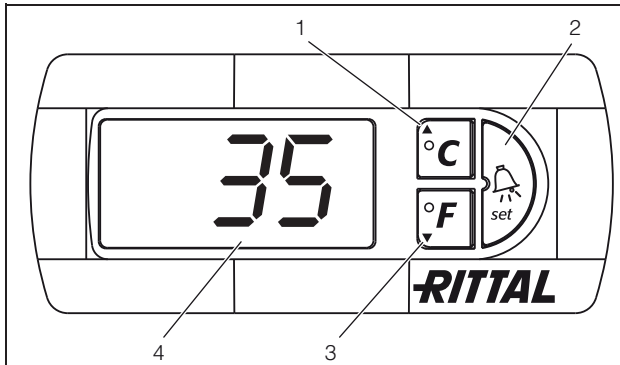

Fig. 21: Display and system analysis of the e-Comfort controller
The e-Comfort controller has a 7-segment display (fig. 21, no. 4). After switching on the power supply, the current software version initially appears on this display for approx. 2 seconds. In regular operation, the display shows both the temperature (in degrees Celsius or Fahrenheit – users may switch between the two) and any error messages.
The current enclosure internal temperature is usually displayed permanently. In the event of an error message, this alternates with the temperature display. The unit is programmed using buttons 1 – 3 (fig. 21). The relevant parameters also appear in the display.
- Simultaneously press buttons 1 and 2 (fig. 21) for at least 5 seconds.
Using buttons 1, 2 and 3 (fig. 21) you can change the parameters within the preset ranges (min. value, max. value).
All Rittal TopTherm heat exchangers with e-Comfort controller from firmware 3.2 have the energy-saving eco-mode, which is activated in the delivered state. The eco-mode is used to save energy in the heat exchanger if there is no thermal load, or there is a low thermal load in the enclosure (e.g. standby operation, no production or weekend). During this process the heat exchanger fan in the internal circuit is switched off as appropriate if the actual enclosure internal temperature drops to 10 K below the setpoint temperature set. Also to reliably measure the internal temperature during this process, the fan starts cyclically for 30 sec. every 10 minutes (see fig. 21). If the internal temperature reaches the range 5 K below the setpoint set again, the fan switches back to continuous operation. If required, the eco-mode can be deactivated via the control display. For this purpose switch the parameter from 1 to 0 in the programming level (see tab. 8, page 18). The fan then runs continuously.